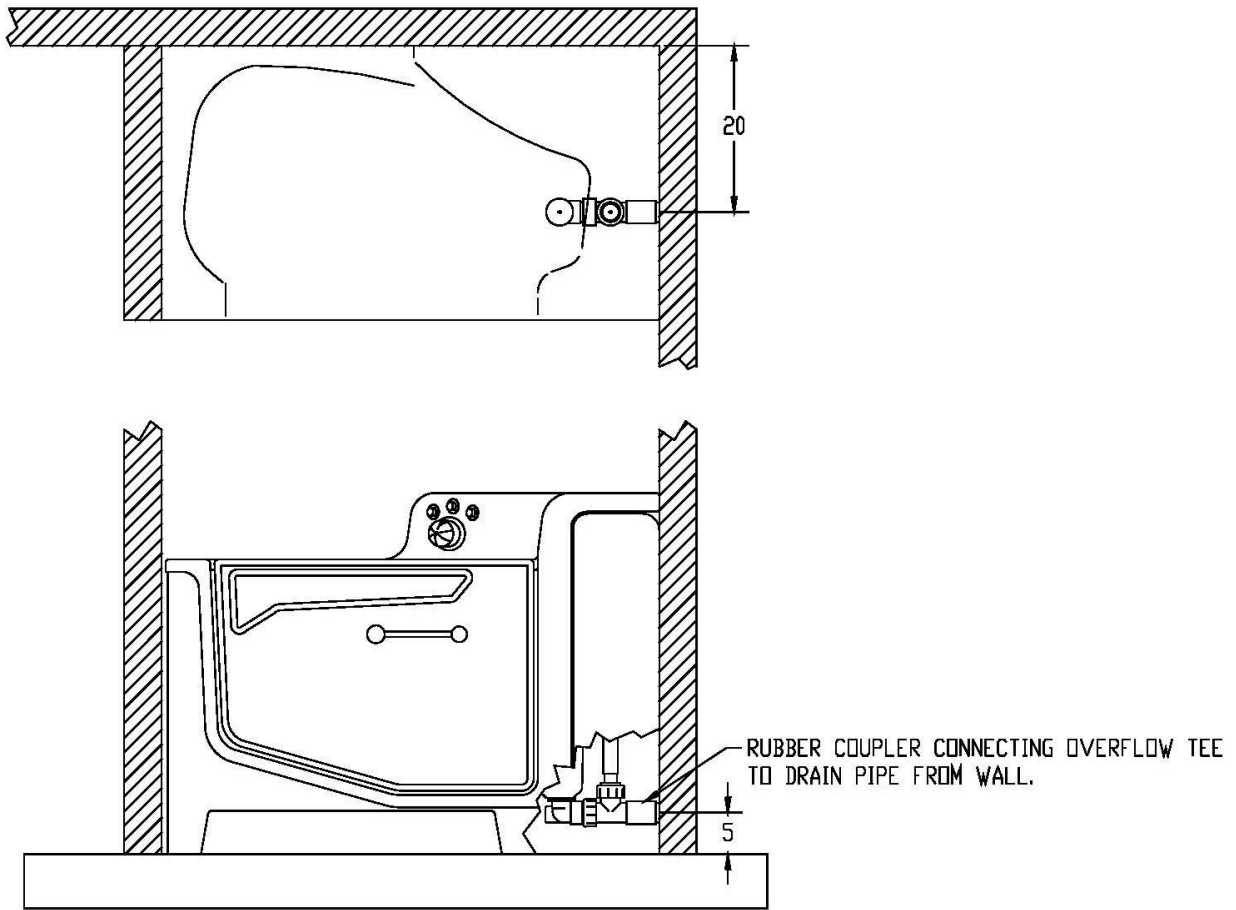

Figure 8
3. Anchor the provided anchor board to the wall as shown in figure 8 with appropriate anchors for the wall type (Stud wall, concrete block, or whatever it might be). Counter sink or counter bore the anchors into the wood to ensure that the anchors do not protrude out from the surface of the anchor board.